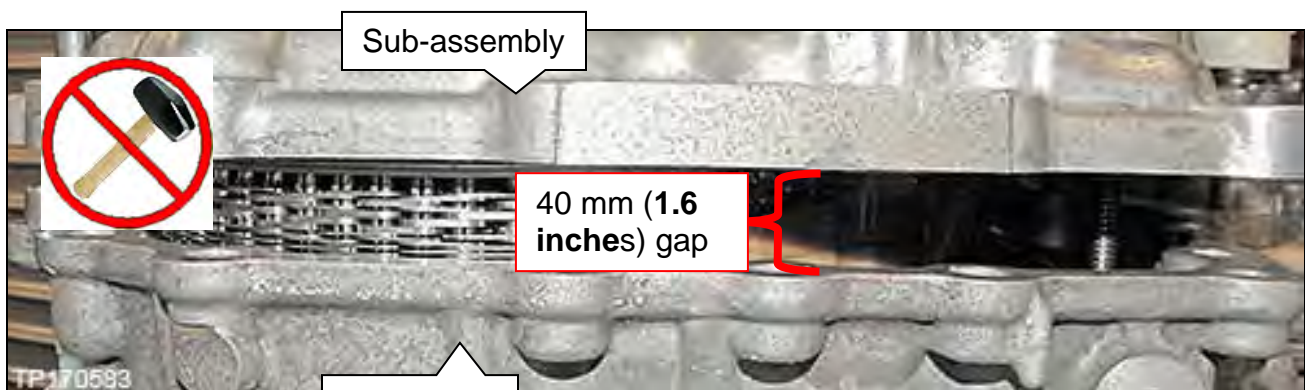

Figure 27E
- b. Lower the sub-assembly until a gap of **40 mm (1.6 inches)** is present to the CVT case (Figure 27E on page 42) and then proceed to step 23.
IMPORTANT: Perform step 23 while the sub-assembly has a **40 mm gap (1.6 inches)** to the CVT case (Figure 27E).